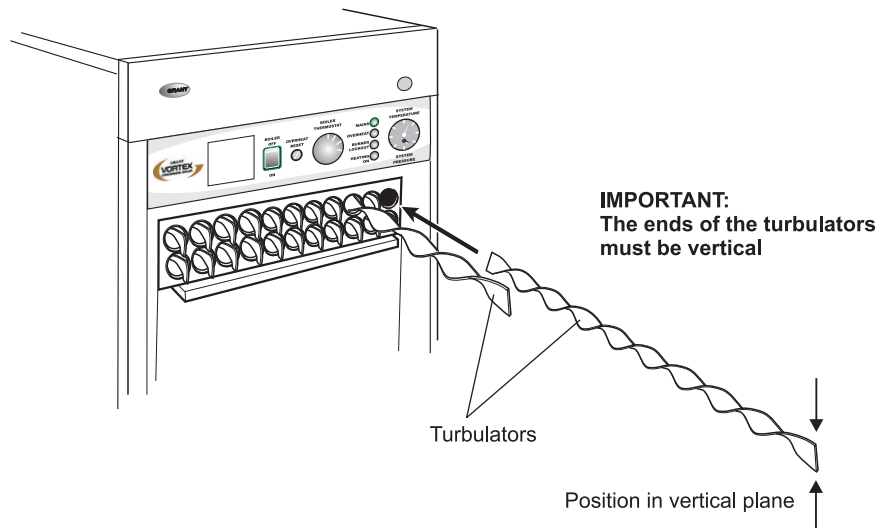

Fig. 31 Vortex Combi turbulators
- 7 **Vortex Combi** - Pull out the spiral turbulators from the heat exchanger tubes. See Fig. 31. Clean the turbulators using a stiff brush. Test the heat exchanger condensate drain by pouring water into one of the lower tubes and observe whether the water discharges from the 22 mm condensate outlet. Replace the turbulators.